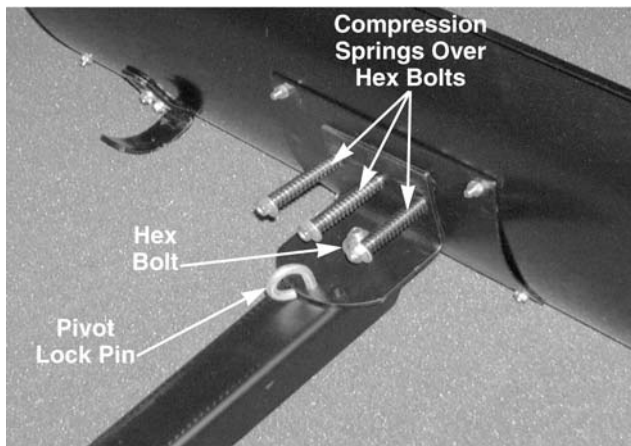

Figure 12-72.
7. Insert hex bolt through push bar channel and front support bracket. Secure with flat washer and hex lock nut. Tighten using a 3/4" flat wrench on top and a 3/4" socket and 6" extension on the bottom. See Figure 12-72.
8. Insert the pivot lock pin through one of the holes in the front support bracket and push bar channel. Secure it with a hairpin clip. See Figure 12-72.